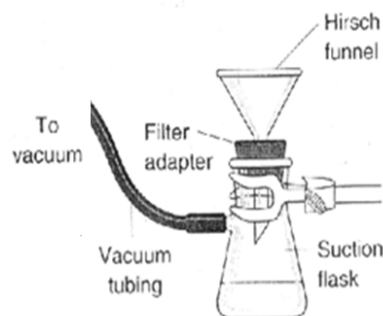

Figure 2: Vacuum filtration system.
18. A vacuum filtration apparatus should be setup at your station (as shown in Fig. 2) using the 250 ml filter flask, the 3.0 cm Hirsch funnel and the 3.0 cm filter paper. Make sure the seal is tight. Place the filter paper on the funnel. Seal the paper with a small amount of cold solvent. Make sure all of the holes in the funnel are covered by the filter paper and the edges are not curling up. Before connecting the hose to the flask, test the vacuum by attaching the hose to the vacuum and placing your thumb over the hole on the other end of the tube and turning the vacuum up until you can feel it. Once the vacuum is working, attach the hose to the flask. Seal the filter paper again using the cold distilled water.